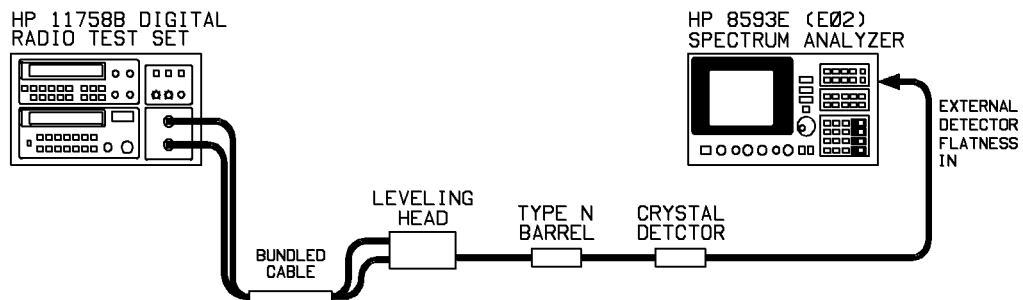
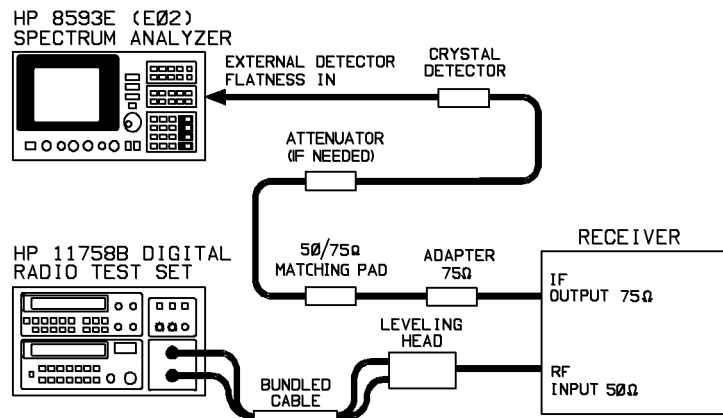

Figure 3-20. Flatness Calibration, > 3 GHz
Figure 3-21. Flatness through Downconverter
11. The procedure starts with a calibration of the test equipment which normalizes out any variations in the setup. Configure the calibration setup as shown in Figure 3-20
16. Set up equipment as shown in the following Figure 3-21.
If the IF output of your receiver is at 75Ω, then the 50Ω-75Ω Matching Pad shown in Figure 3-21 should be used. However, because the calibration setup shown in Figure 3-20 is all at 50Ω, the Matching Pad cannot be used in the calibration. Any unflatness inherent in the Matching Pad will therefore cause an error in the measurement.